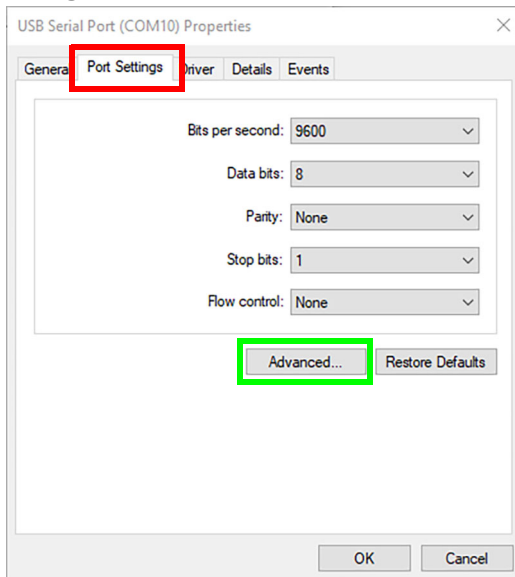

Figure 34 *USB Serial Port Properties dialog*
3. Click on the **Port Settings** tab (outlined in red in Figure 34) in the USB Serial Port Properties dialog, and then click the **Advanced** button (outlined in green in Figure 34).